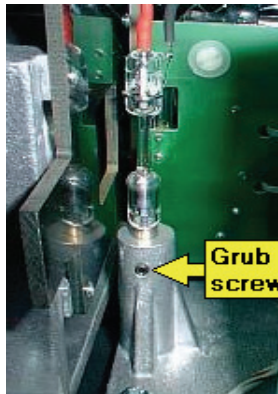

Figure 126 Loosen the grub screw
7. Loosen the grub screw at the bottom of the lamp holder bracket, as shown in Figure 126.